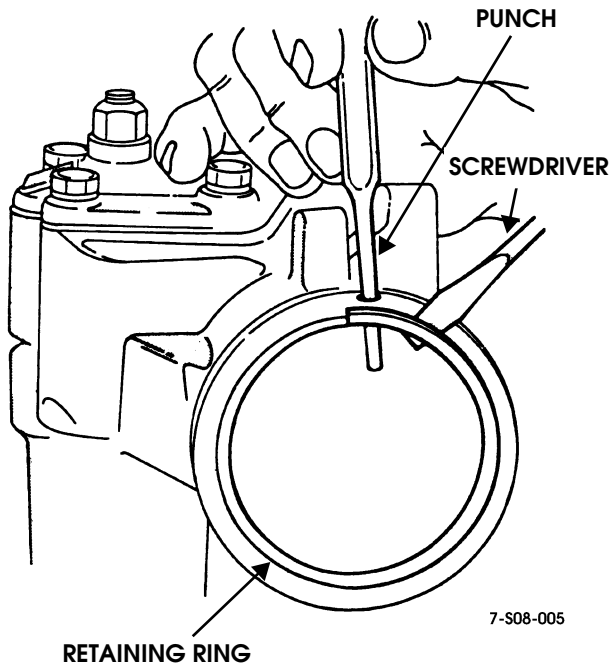

Figure 8-32: End Plug Retaining Ring Removal
1. Rotate end plug retaining ring until one end is under small access hole in housing (Figure 8-32).
2. Unseat end plug retaining ring with small pin punch and screwdriver (Figure 8-32). Insert punch through access hole in housing as shown.